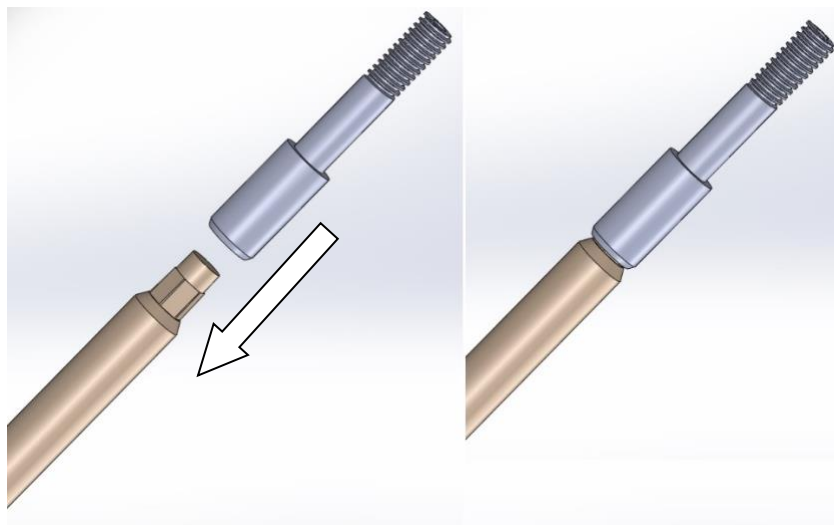

Figure 2 - Bolt attached to the Driver's hex end
3. Attach the desired surgical bolt to the Hex end of the Driver as shown in **Figure 2**.